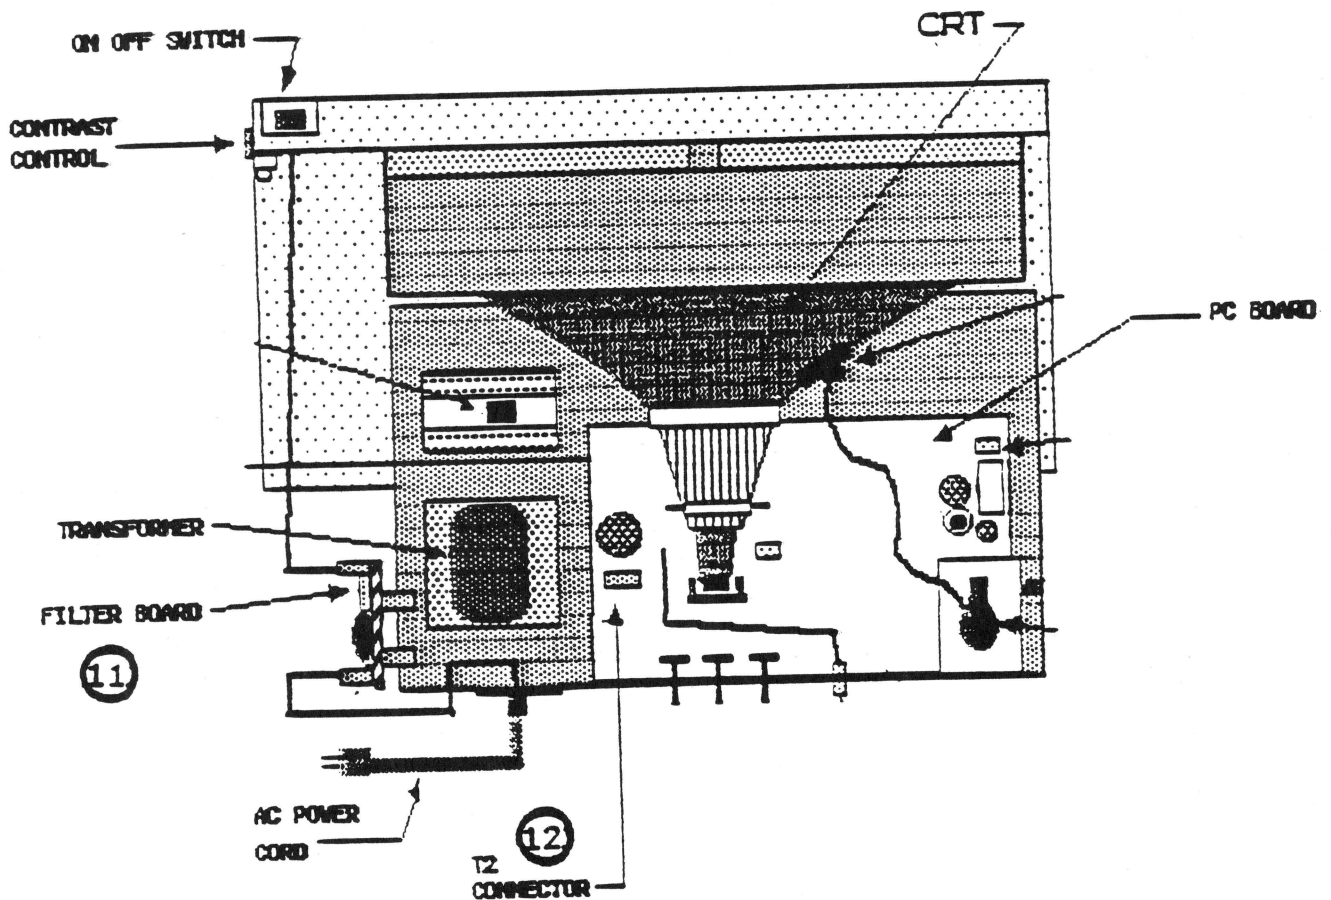

Figure 3
2. Disconnect the black and white pair of wires at T1 on the filter board (see Figure 3. 11).
3. Disconnect the red pair of wires located at T2 on the rear edge of the main PCB (see Figure 3. 12).